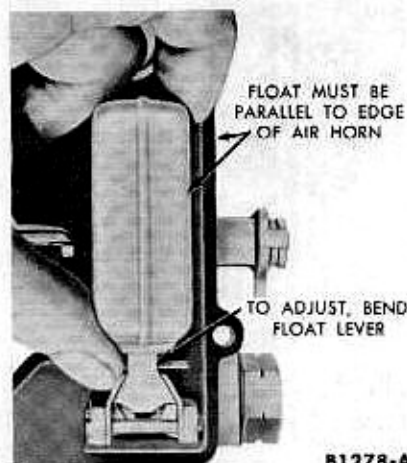

FIG. 43—Float Alignment
1. Sight down the side of each float shell to determine if the side of the float is parallel to the outer edge of the air horn casting (Fig. 43).